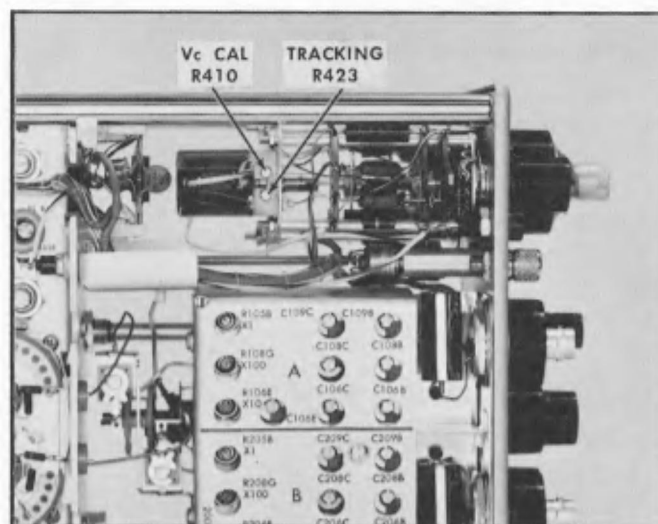

Fig. 5-13. Location of adjustments for steps 9 and 10.
d. Adjust the Vc CAL control R410 (see Fig. 5-13) for a null reading on the meter.
d. Adjust the TRACKING control R423 (see Fig. 5-13) for a null reading on the meter.